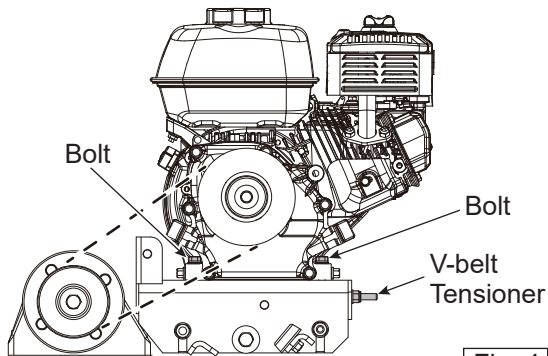

Fig. 4
- If the V-belt tension is not proper, adjust the V-belt tension. Slacken the four bolts fixed the engine and turn the nut for the V-belt tensioner until the V-belt tension is correct. Retighten the bolts and recheck the tension and alignment. (Fig. 4)